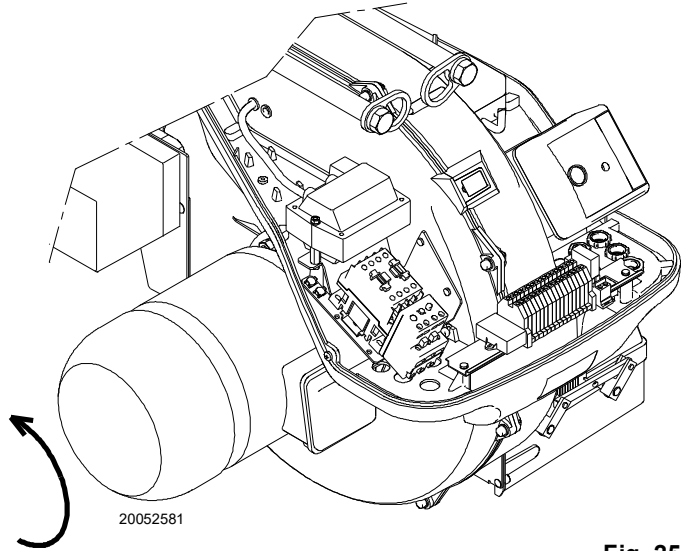

Fig. 25
- check the fan motor rotation direction, as shown in Fig. 25.